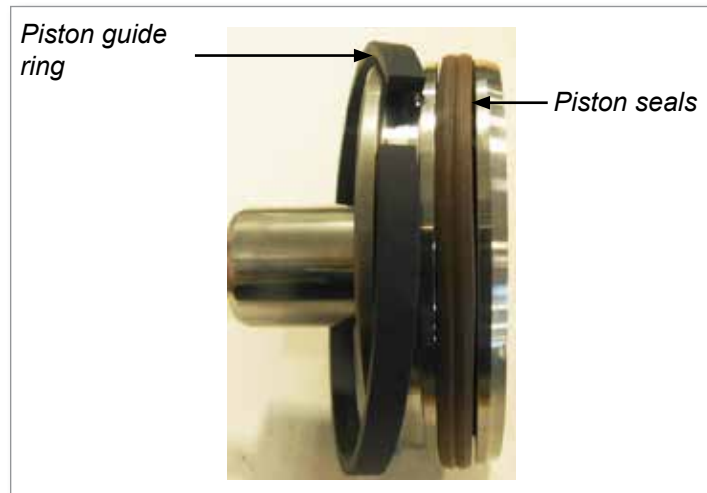

Figure 4-11 Install piston seals and guide ring
1. Install the two piston seals and the piston guide ring. See Figure 4-11.